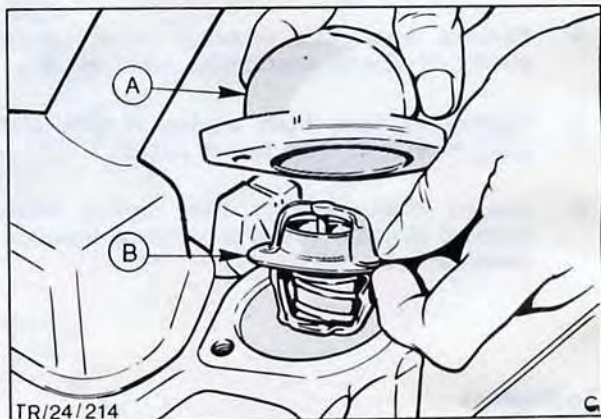

Fig. 19. Thermostat removal (Kent engine)
6. Remove thermostat housing and thermostat, Figs. 19 and 20.